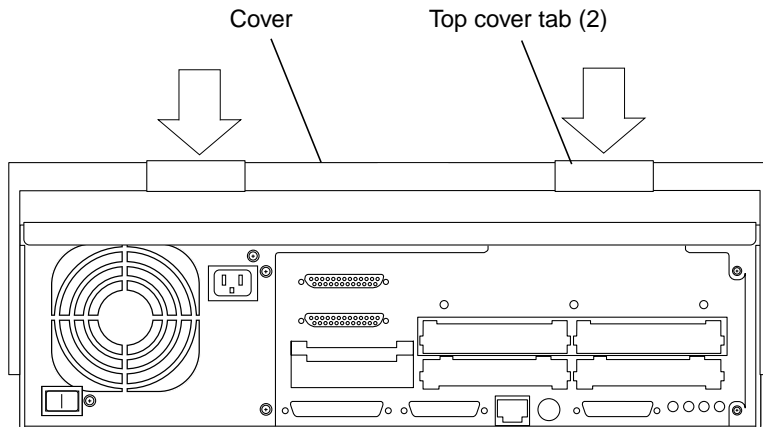

FIGURE 7-4 Replacing the System Unit Cover
3. Lower the cover onto the system unit so that the rear of the cover is supported by the chassis back panel (FIGURE 7-4).